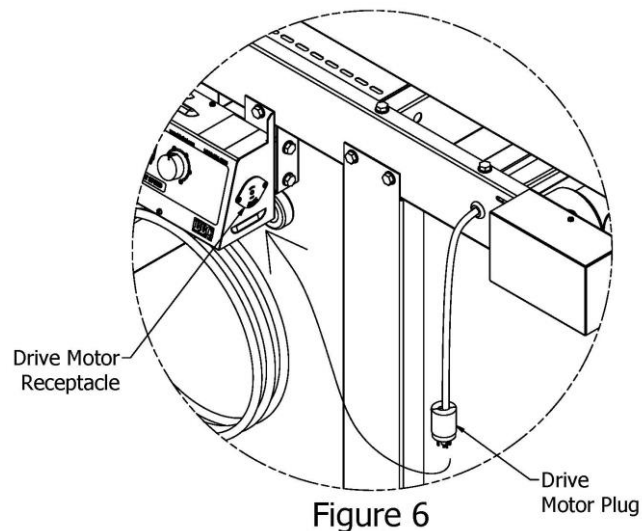

Figure 6
2. Insert drive motor plug into drive motor receptacle. Twist plug to lock in place. (See Figure 6)